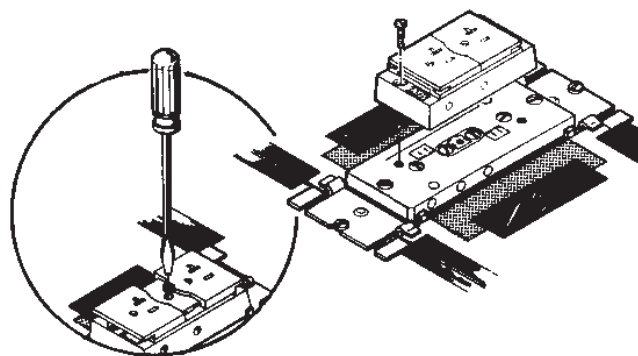

Figure 8
16. Start outer screws (2). Do NOT tighten. Open covers and tighten the center screw. Tighten all screws to 23 N•m [20 in. lb]. See Figure 8.